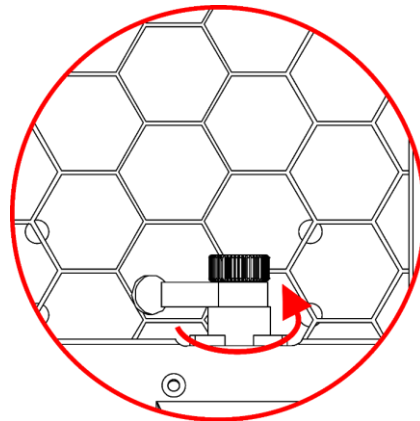

Fig. 15
- 03) Turn the locking levers counterclockwise to tighten the Premiere LED panel to the **bottom frame (C)** (Fig. 15).